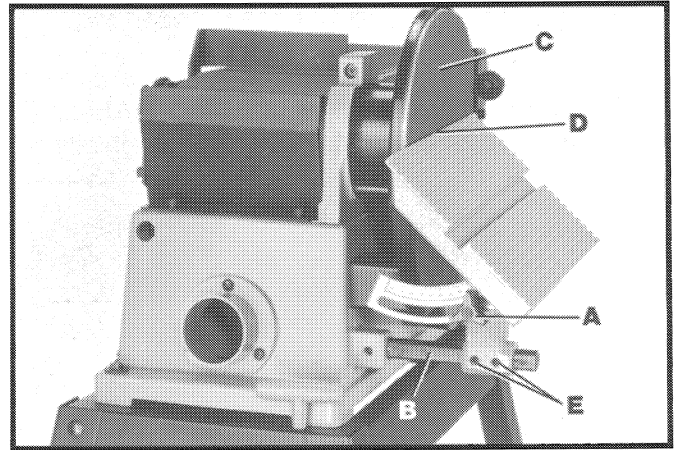

Fig. 27
1. The table can be tilted up to 45 degrees to the right by loosening the table lock knob (A) Fig. 27, tilting the table to the desired angle, and tightening table lock knob (A).
2. **WARNING: AFTER TILTING, THE TABLE ASSEMBLY MUST BE REPOSITIONED ON THE SUPPORT ROD (B) FIG. 27, TO PROVIDE A MAXIMUM OF 1/16 INCH DISTANCE BETWEEN THE SANDING DISC (C), AND THE EDGE (D) OF THE TABLE, TO AVOID TRAPPING THE WORK OR FINGERS BETWEEN THE DISC AND TABLE. TO REPOSITION THE TABLE ASSEMBLY, LOOSEN TWO SCREWS (E), MOVE TABLE ASSEMBLY ON ROD (B), AND TIGHTEN SCREW (E).**